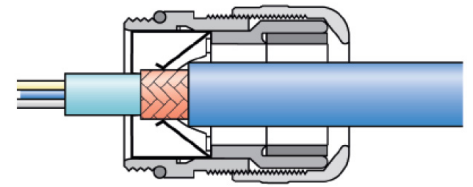

Figure 33: Cable entry
4. Connect the cables to the corresponding plugs on the left side of the board as shown in Figure 33.